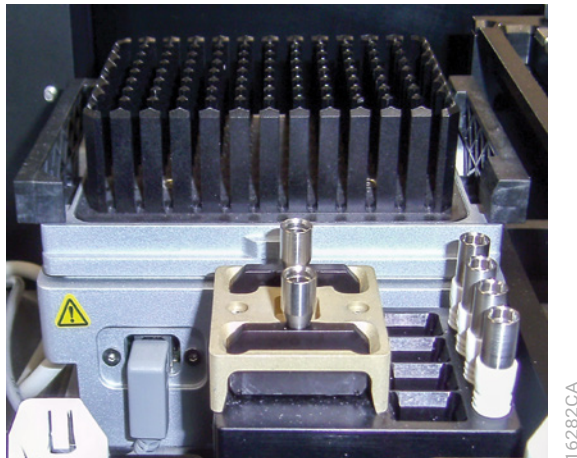

Figure 40. Tool Holder. Replace any tools that have been removed from the pipetting channels in their appropriate location on the left side of the instrument.
6. Once all tips or tools have been released from the pipetting channels, discard any tips or plungers and replace any tools in their appropriate tool holder (Figure 40). When plunger tools are removed from the channels, place them back in the tool holder. When gripper paddles are removed from the channels, replace them in the tool holder so that the pins and magnets are facing toward the center of the tool holder.